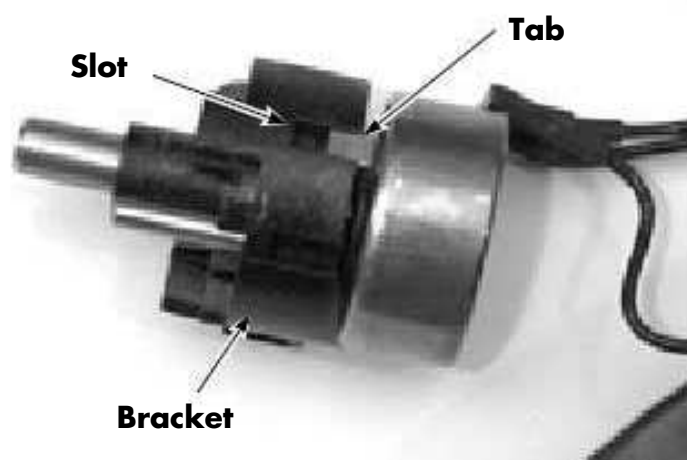

Figure 7-12. Anti-Rotate Tab
1. Remove the lift/lower pot and bracket from the cover. See Figure 7-12.
5. Slide lift/lower pot bracket onto the shaft. Make sure the anti-rotation tab is inserted into the correct slot on the bracket. See Figure 7-12.